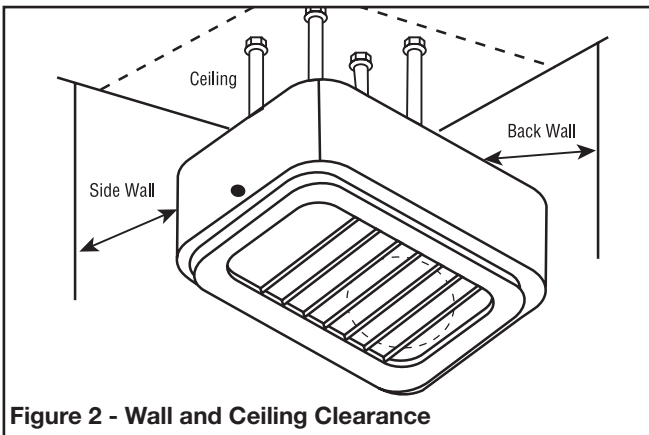

Figure 2 - Wall and Ceiling Clearance
- Securely attach the four (4) mounting rods to the ceiling. (Refer to Table D for wall and ceiling clearances, and Figure 2 for mounting spacing specifications.)